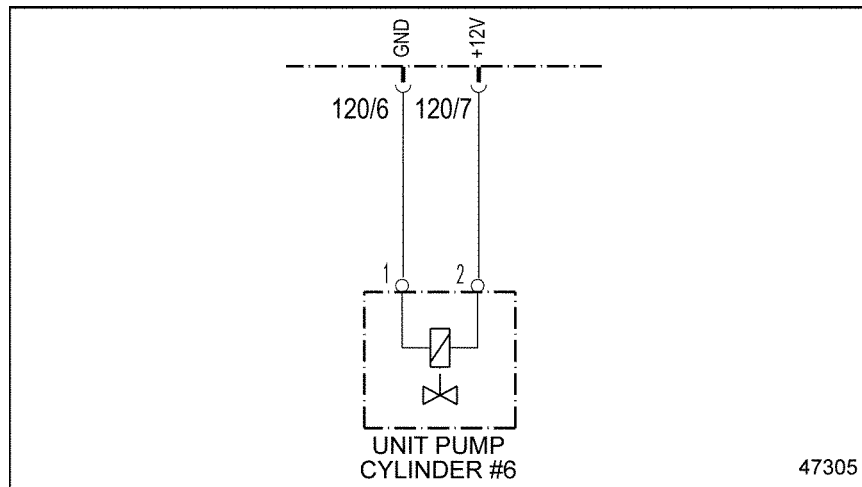

Figure 50-2 Electronic Unit Pump #6
3. Disconnect pins 1 and 2 of Electronic Unit Pump #6. See Figure 50-2.